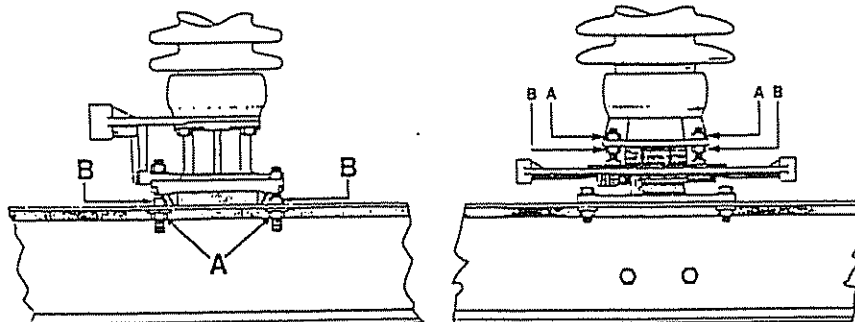

Figure 3 - Jack screw adjustment.
5. Bolt the jaw adaptors to the jaws (end hardware) and bolt these assemblies to the tops of the end insulators (see Figure 3). A 1/2" spacer is used between the adaptor and the insulator. If a grounding switch jaw is to be mounted, do not use a spacer on that stack.